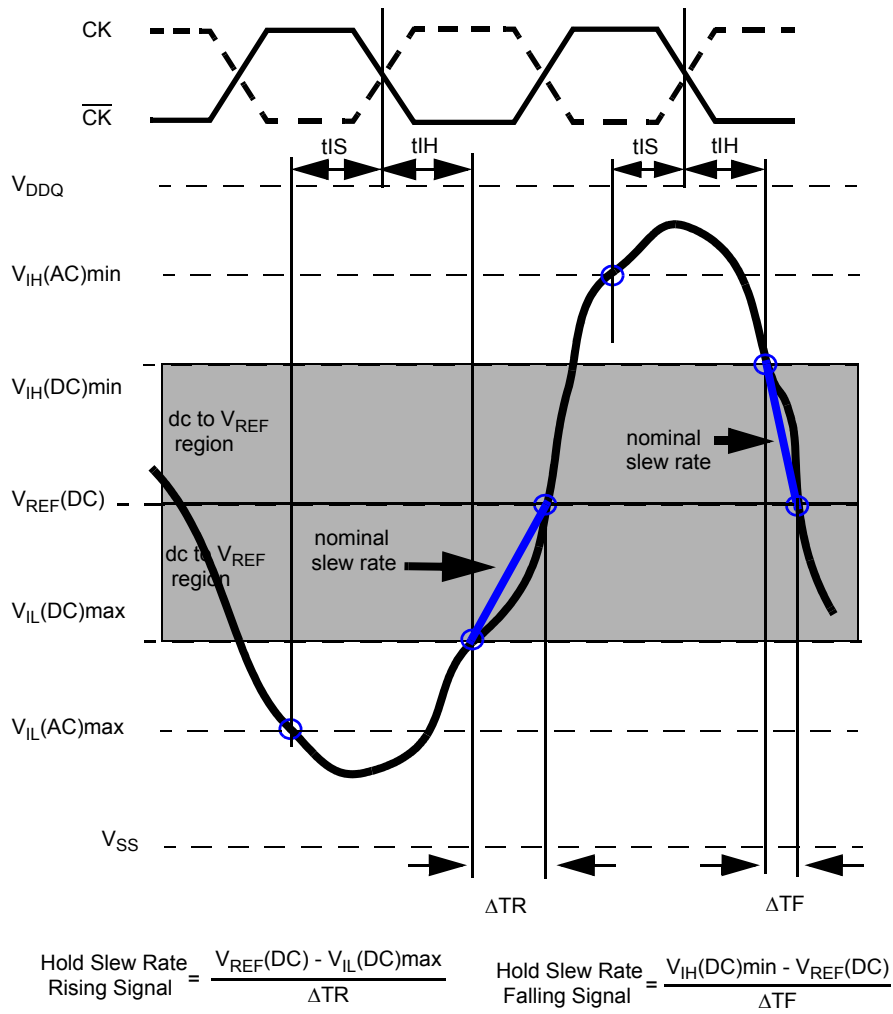
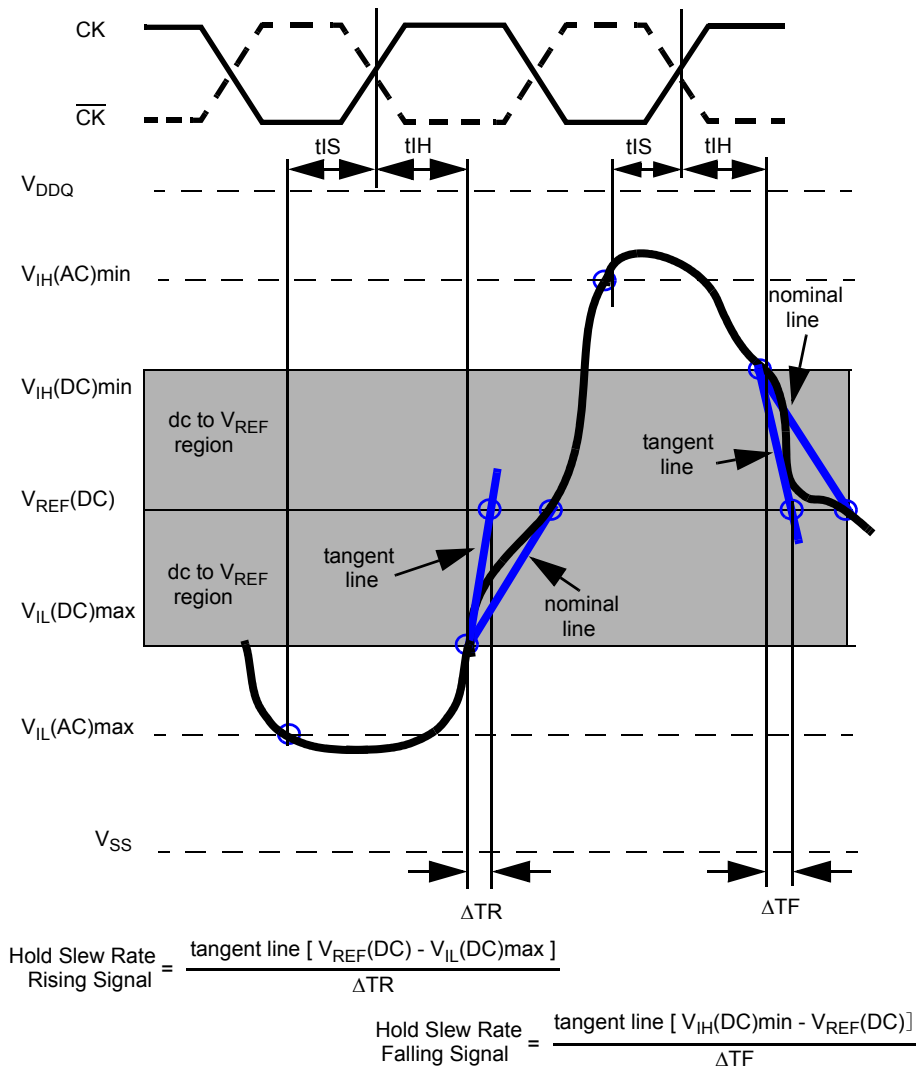

Figure 17. Illustration of nominal slew rate for tIH
Figure 18. Illustration of tangent line for tIH
Hold (tIH) nominal slew rate for a rising signal is defined as the slew rate between the last crossing of VIL(DC)max and the first crossing of VREF(DC). Hold (tIH) nominal slew rate for a falling signal is defined as the slew rate between the last crossing of VIH(DC)min and the first crossing of VREF(DC). If the actual signal is always later than the nominal slewrate line between shaded 'dc to VREF(DC) region', use nominal slew rate for derating value (see Figure 17). If the actual signal is earlier than the nominal slew rate line anywhere between shaded 'dc to VREF(DC) region', the slew rate of a tangent line to the actual signal from the dc level to VREF(DC) level is used for derating value (see Figure 18).